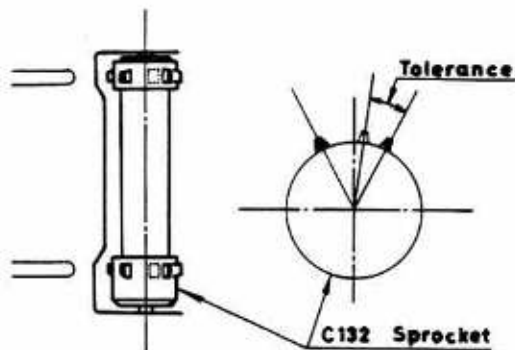

Fig. 8
- Winding mech. is in the cocked positin, lightly push Sprocket toward the film aperture side to eliminate its play, Sprocket must be positioned in the range as shown in Fig. 8.
A pair of Sprocket teeth should be positioned between the symmetrical position with the center of Sprocket and slightly shifted toward Winding lever side. Refer to Fig. 8.